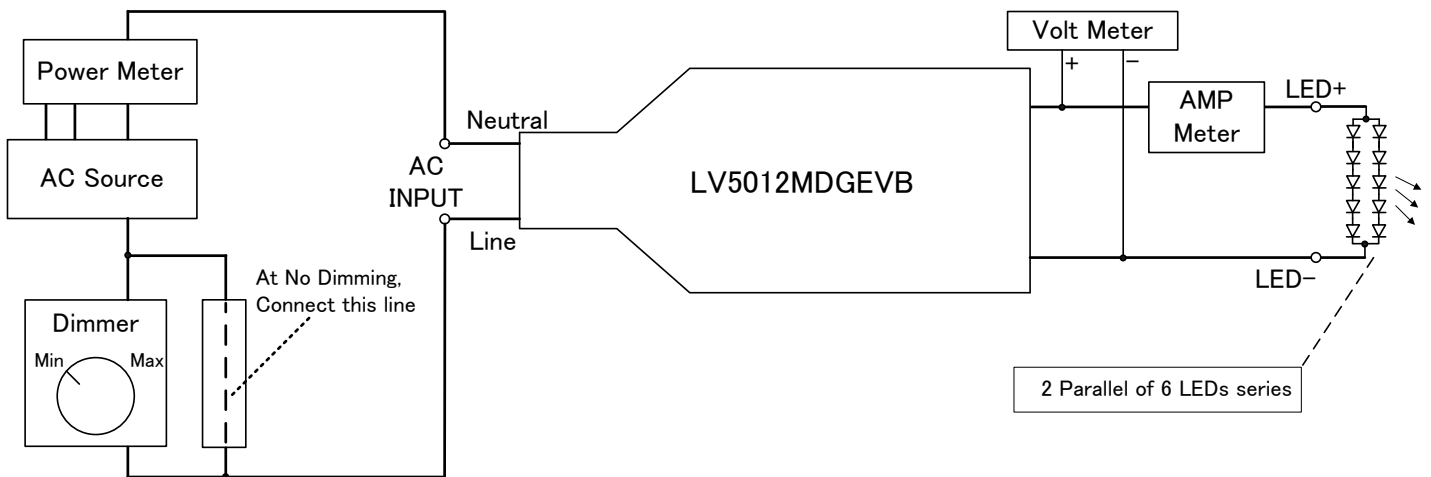

Figure1. LV5012MDGEVB Recommended Test Set Up
1. Connect LV5012MDGEVB like upper Figure1. An external LED load must be used to start up the EVB.